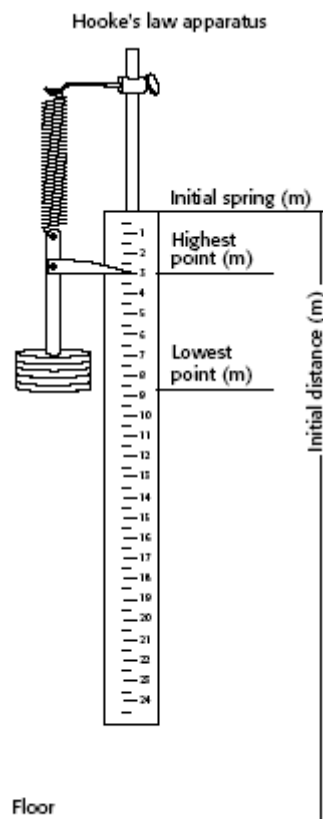

Figure 1
12. Gently release the pan to let the pan drop. Watch closely to identify the high and low points of the oscillation, as shown in **Figure 1**.
- 4. Organizing Data** Using your data from Data Table 2, calculate the elongation of the spring at the highest point of each trial. Use the equation $\text{elongation} = \text{highest point} - \text{initial spring}$. Refer to **Figure 1**.
- 5. Organizing Data** Calculate the elongation of the spring at the lowest point of each trial. Use the equation $\text{elongation} = \text{lowest point} - \text{initial spring}$. Refer to **Figure 1**.